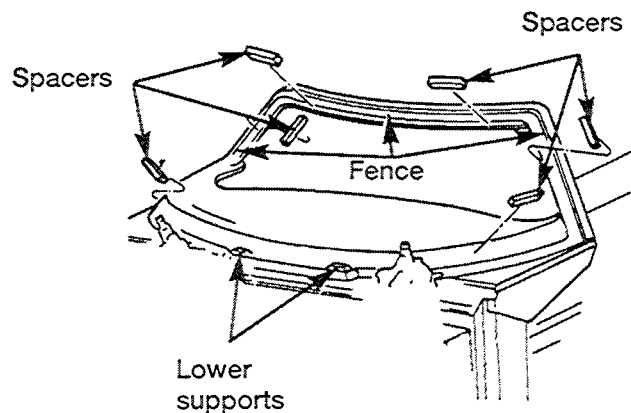

Fig. 5 Position Urethane Compression Spacers
6. Position spacers on windshield opening fence as indicated (Fig. 5).